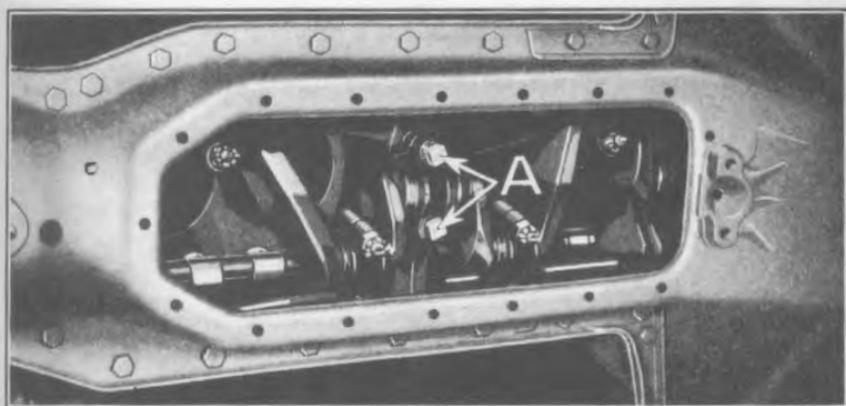

Fig. 261
- 444** The center bearing is adjusted next while the front bearing is adjusted last. These two bearings are adjusted in the same manner as the rear main bearing, except that it is necessary to remove both the bearing bolts and nuts in order to remove caps and withdraw the shims. To remove the caps, one man holds a wrench on the two bearing bolt nuts, which on the center bearing are located between No. 2 and No. 3 cylinders (See "A" Fig. 260), while another man beneath the car runs out the bolts (See "A" Fig. 261). Front bearing bolt nuts (See "B" Fig. 260), are located in front of No. 1 cylinder.